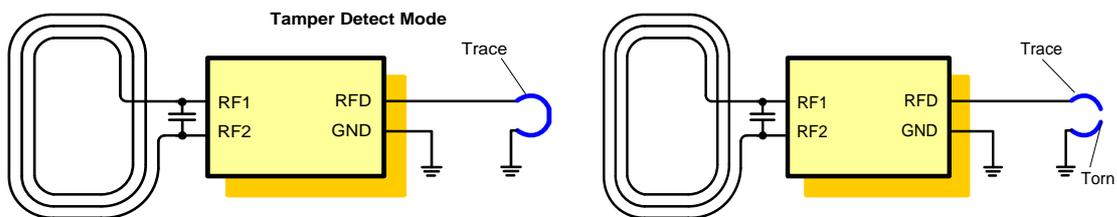

Figure 4 SIC43NT operating in tamper evident detection mode
- Tamper evident detection (Figure 4)